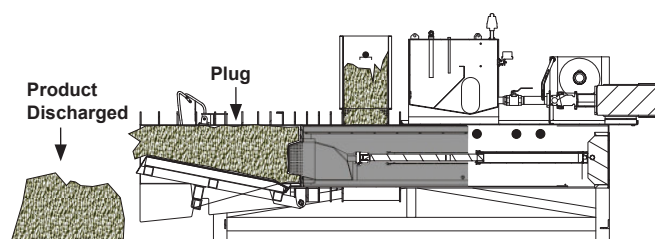

Figure 28 - Plug Formed
6. **DEWATERING STARTS** Good dewatering starts when product has formed a plug in the chamber with the restriction rail up and the plunger pushing product forward (see Figure 28).